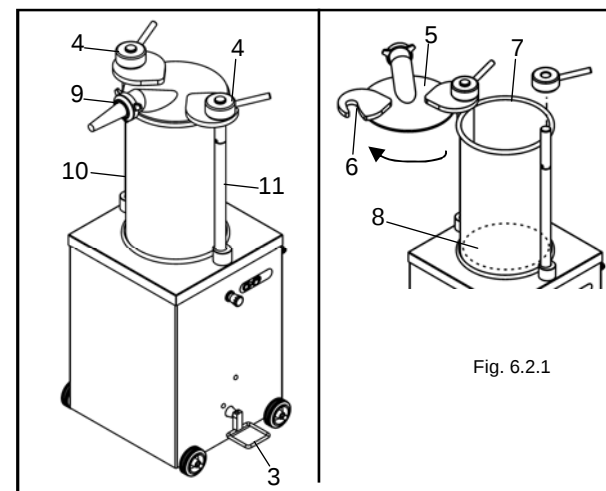

Fig. 6.2.1
- After having connected the machine to the electrical line press the start push button "1" fig. 6.2.1 .
- Loosen the ring nuts "4" that block the cover by a few turns. Lift the cover and turn it sideways as in fig. 6.2.1.
- After having chosen and assembled the exit funnel by means of the ring nut "9", fig. 6.2.1 push the start push button "1".
- When the content of the cylinder is finished bring the plug into its initial position by lifting the pedal (fig. 6.2.1).
To adequately clean the machine of mixture residue remove the cover by unfastening the locking ring nuts "4" fig. 6.2.1.
Extract the cylinder by lifting it perpendicularly to the two pins "10" and "11" fig. 6.2.1.
Reassemble everything and close it with the cover "5" with the lever "4" on the cylinder "7" (fig. 6.2.1).
If the plug "8" must be disassembled (fig. 6.2.1) act in the following way: